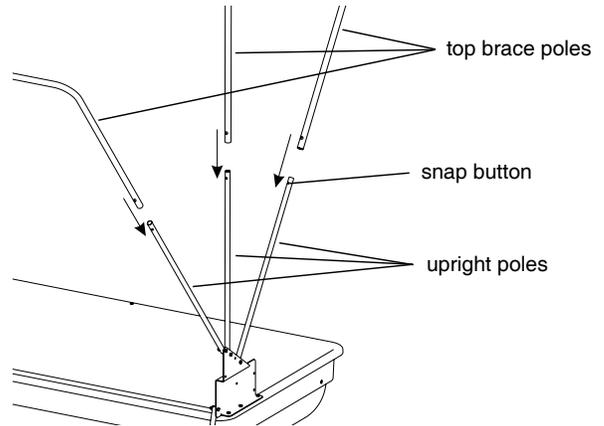

FIGURE 6
1. Insert (3) hinge upright poles from each hinge and insert them into the (3) top cross brace poles (large loop poles). Push the snap buttons inward to allow cross brace poles to go over hinge poles and slide them to their shortest height (transport mode). **SEE FIGURE 6.**